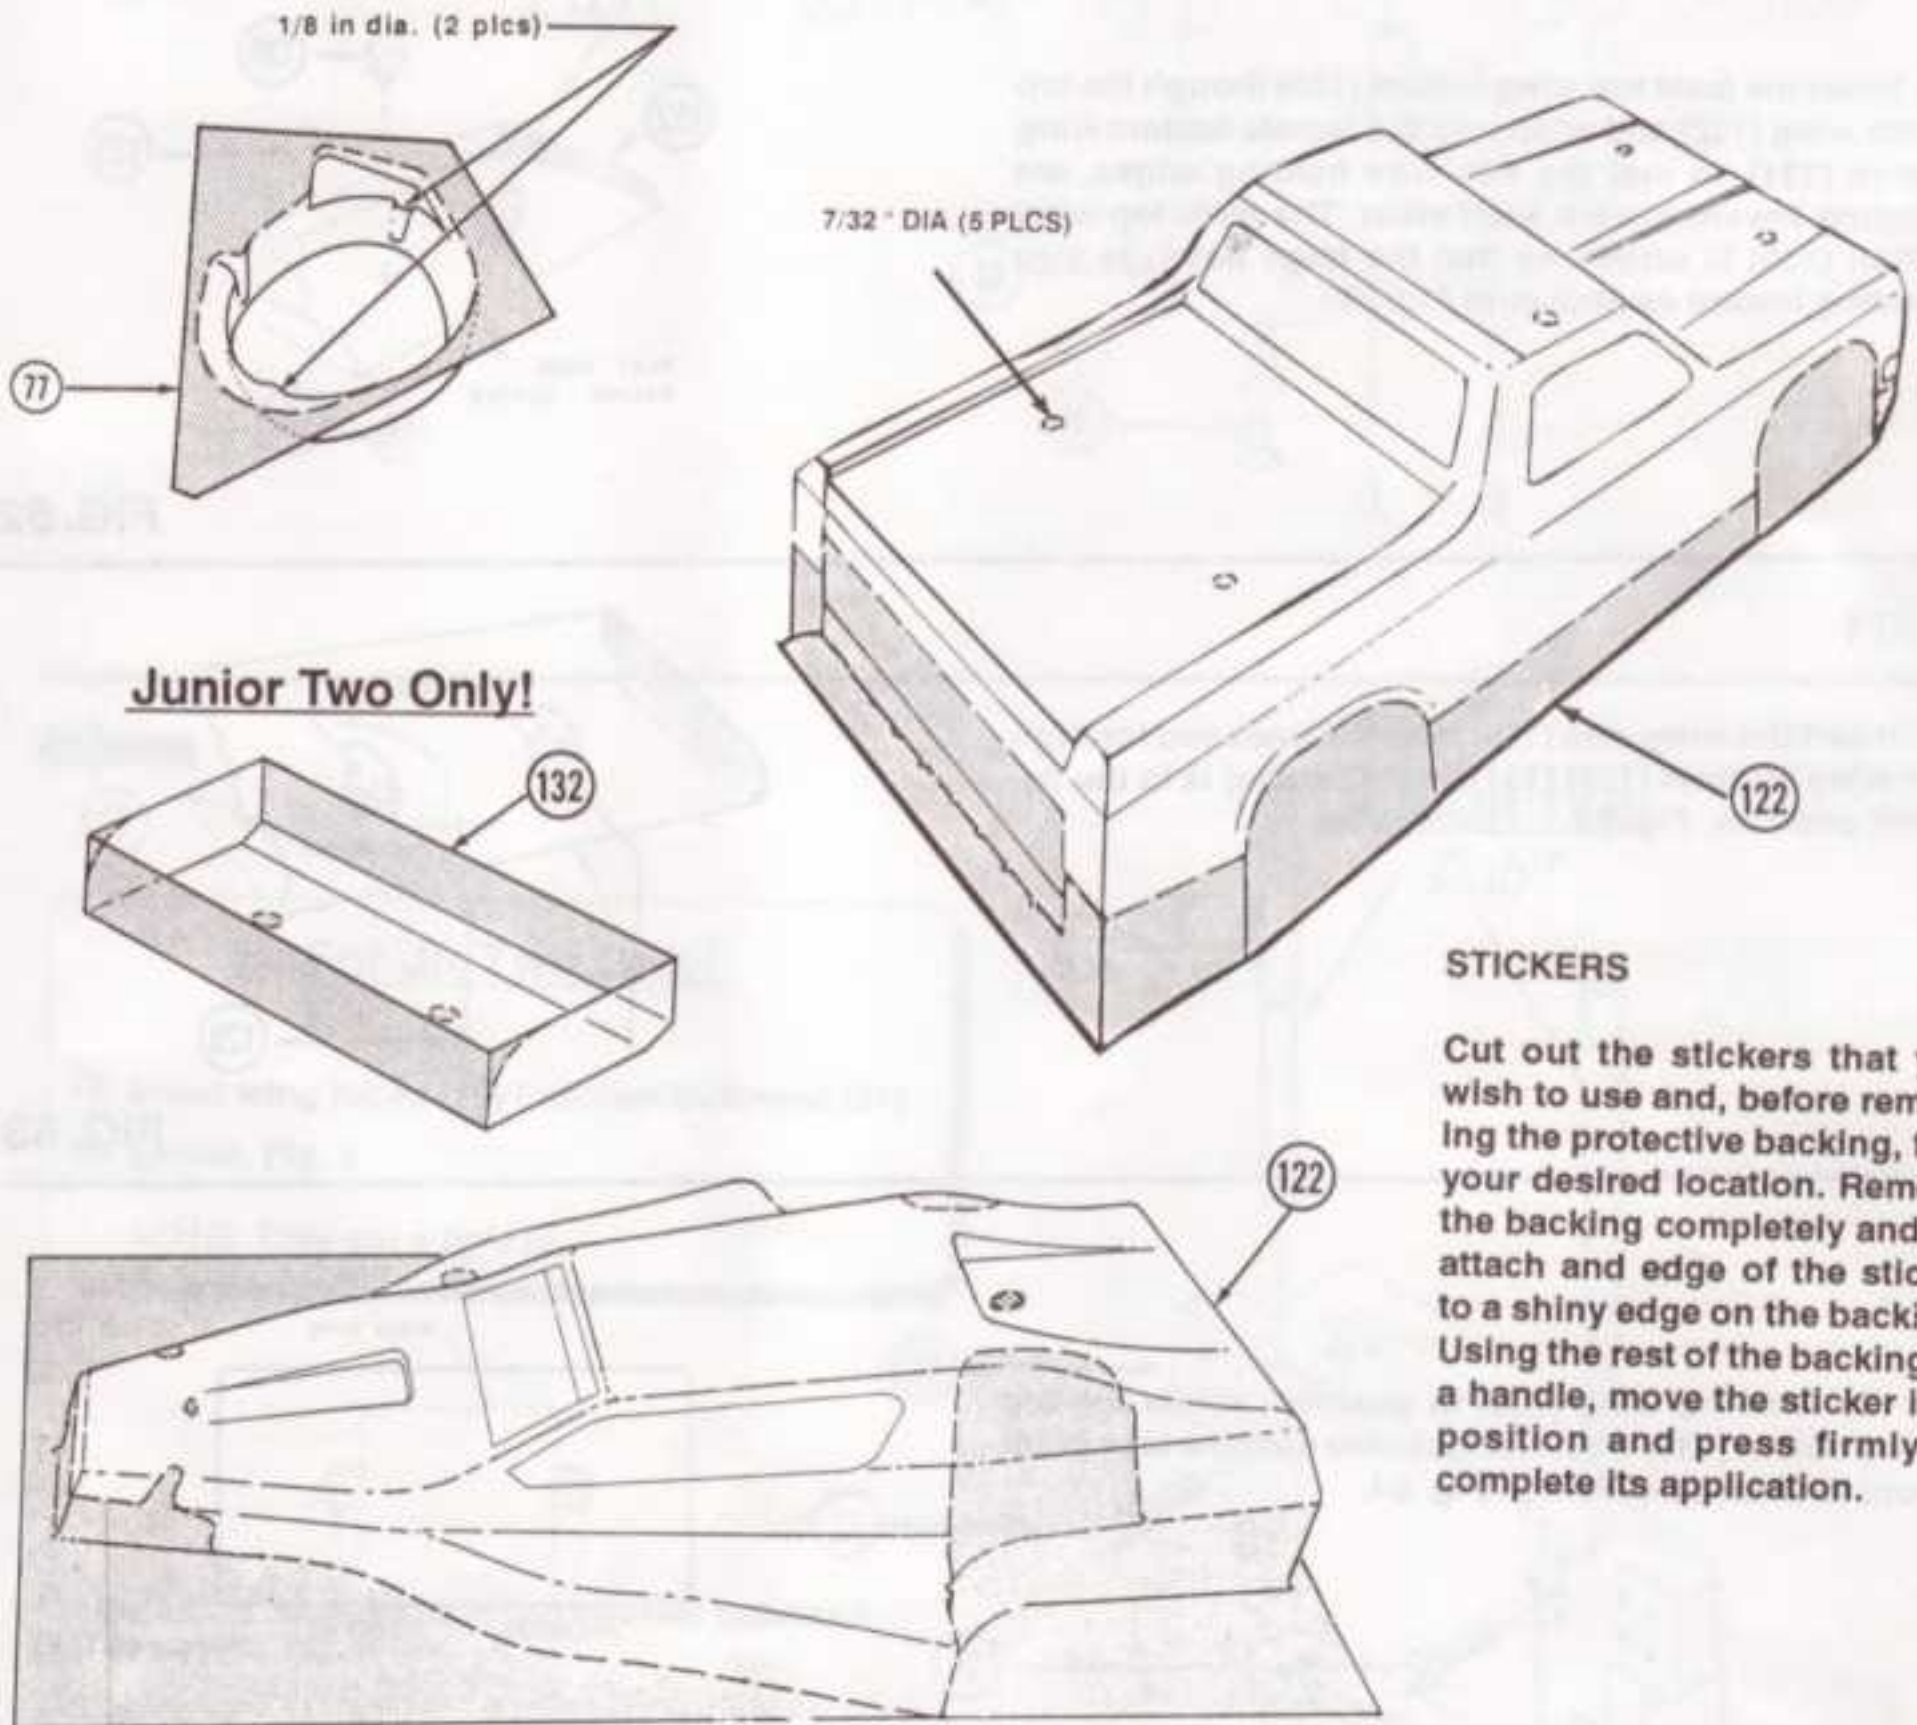

FIG. 49
4. Remove antenna mount cap (18) from antenna mount (19) on chassis (9).
5. Thread antenna wire through tube (114) so that 3/4" of the wire extends out side the tube (114). Fig. 49.
6. With wire positioned into slot in antenna mount (18) place end of antenna tube (114) into antenna mount (18), making sure wire is free and tube (114) is secure. Fig. 49.
7. Slide antenna mount cap (18) down over antenna tube (114) and snap onto antenna mount (19). Fig. 49.
8. Fold wire end down over antenna tube (114) and secure with antenna tip (115). Fig. 49.
9. Mount batteries in front of rear bulkhead (21) and secure them using a body clip (17) in the battery box (15).
11. Mount the speed controller on the rear shock tower (24) using the servo tape (37) provided.